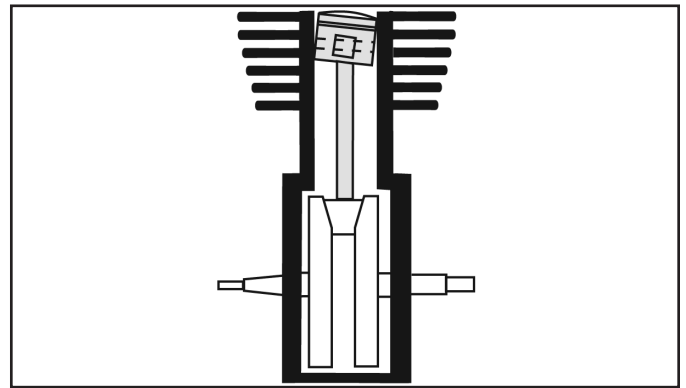

Figure 6
- Move piston towards driveside of engine and repeat Step C. If inaccuracies are present due to machining variations in cases, cylinders or pistons, top land of piston deck will appear closer to cylinder wall at one point around circumference. This means that piston is cocked in cylinder bore and can be corrected by bending rod in opposite direction. **Figure 6, above right,** shows an exaggerated side view of this condition.